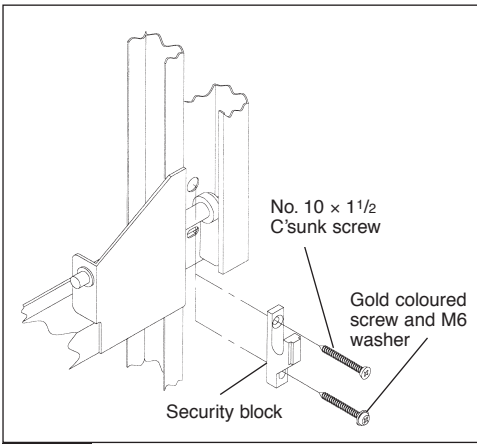

**FIG 2**
**2 a.** Insert the **gold** coloured screw with M6 washer into the slotted hole at the top of both Spring Mounting Brackets. Do not fully tighten at this stage (see fig. 2).
- c.** Remove remaining screw on the side of the Transit Brackets (see fig. 2) and discard the Transit Brackets.
**3** Re-check that door is positioned centrally between timbers and that both link arms (see fig. 2) are equally set relative to door panel edge (any minor adjustment will be available on the Spring Mounting Bracket top slotted holes) before inserting lower **gold** coloured screw and M6 washer in each side.
- 4** On the **upper** fixing slot in both runners, pilot drill 4.0 dia. x 25 deep then insert and tighten a No. 12 x 1 1/2" Round Head Posi. screw (see fig. 2).
5. Remove 4 screws securing the two spring mounting brackets. (See Fig.2)